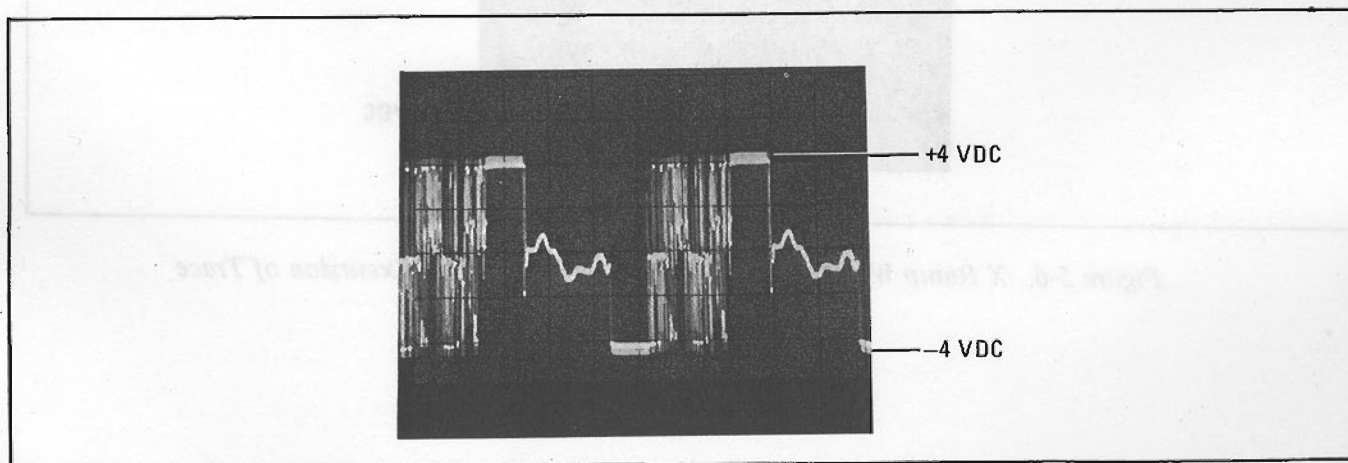

Figure 5-5. Y-Generator Waveform at A2TP5
- Connect dc coupled oscilloscope to A2TP5 and adjust "C" so the top of the waveform (Figure 5-5) is the same as the "true full scale" reference line noted in step a ± 0.12 volts.